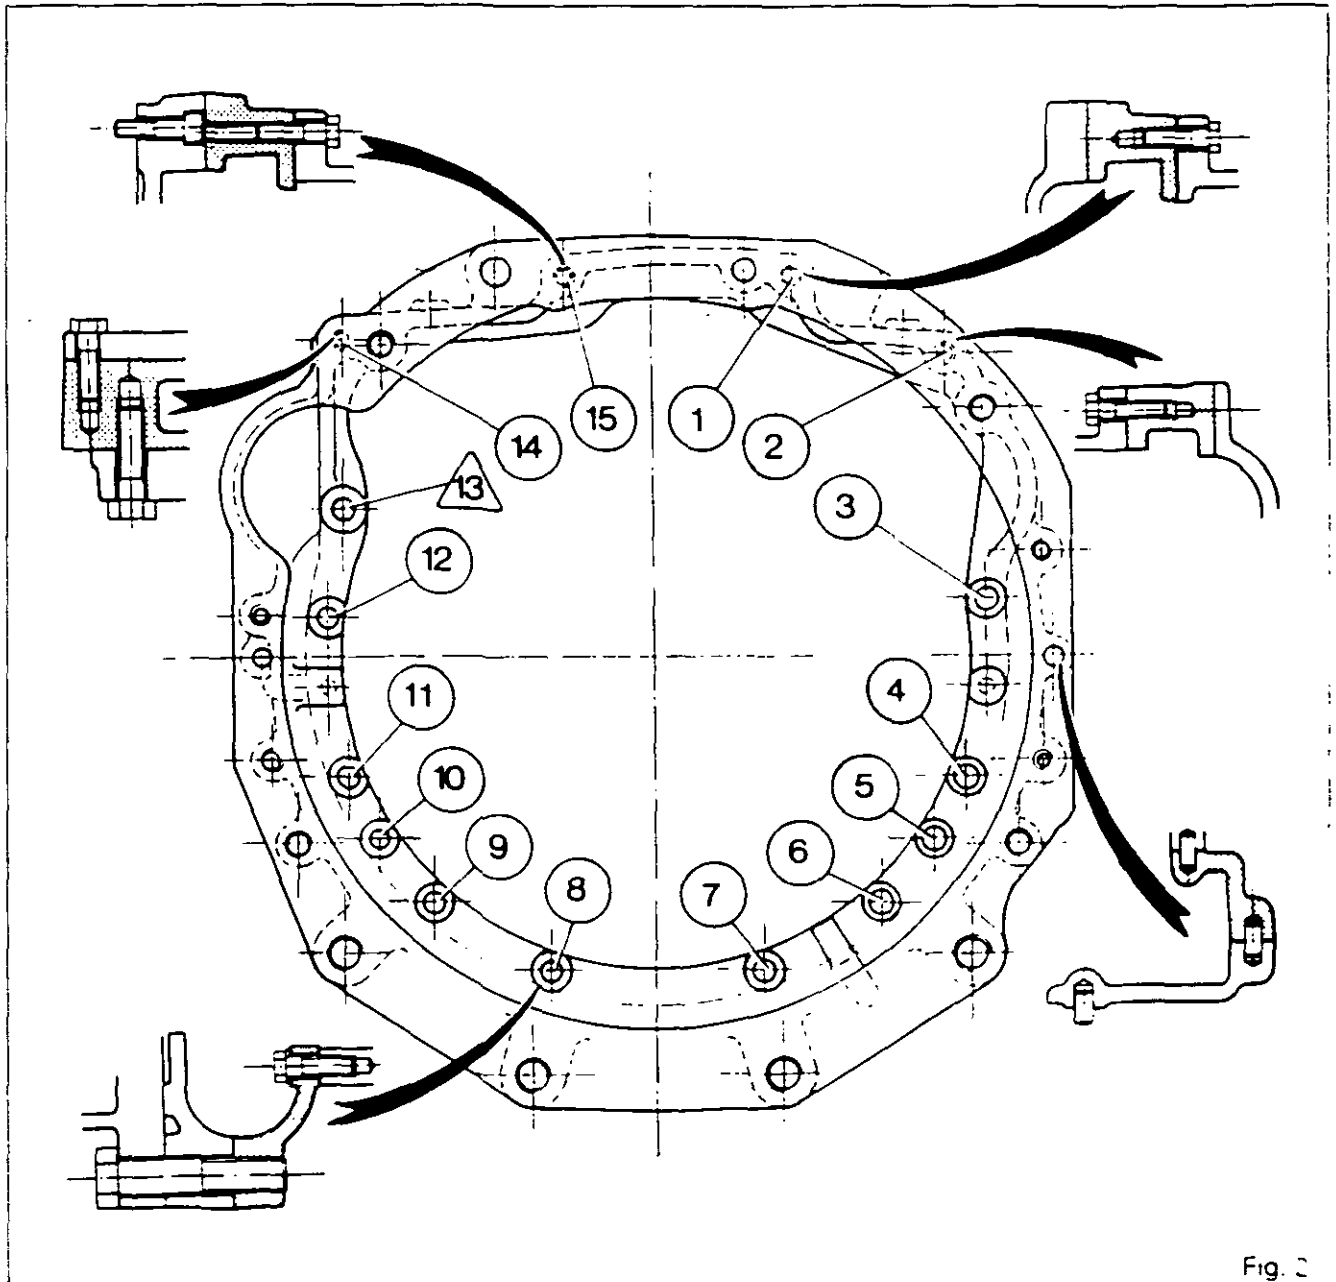

Fig. 2
**Note: Make sure that the countersunk head screw /13/ is positioned in the correct hole (Fig. 2).**